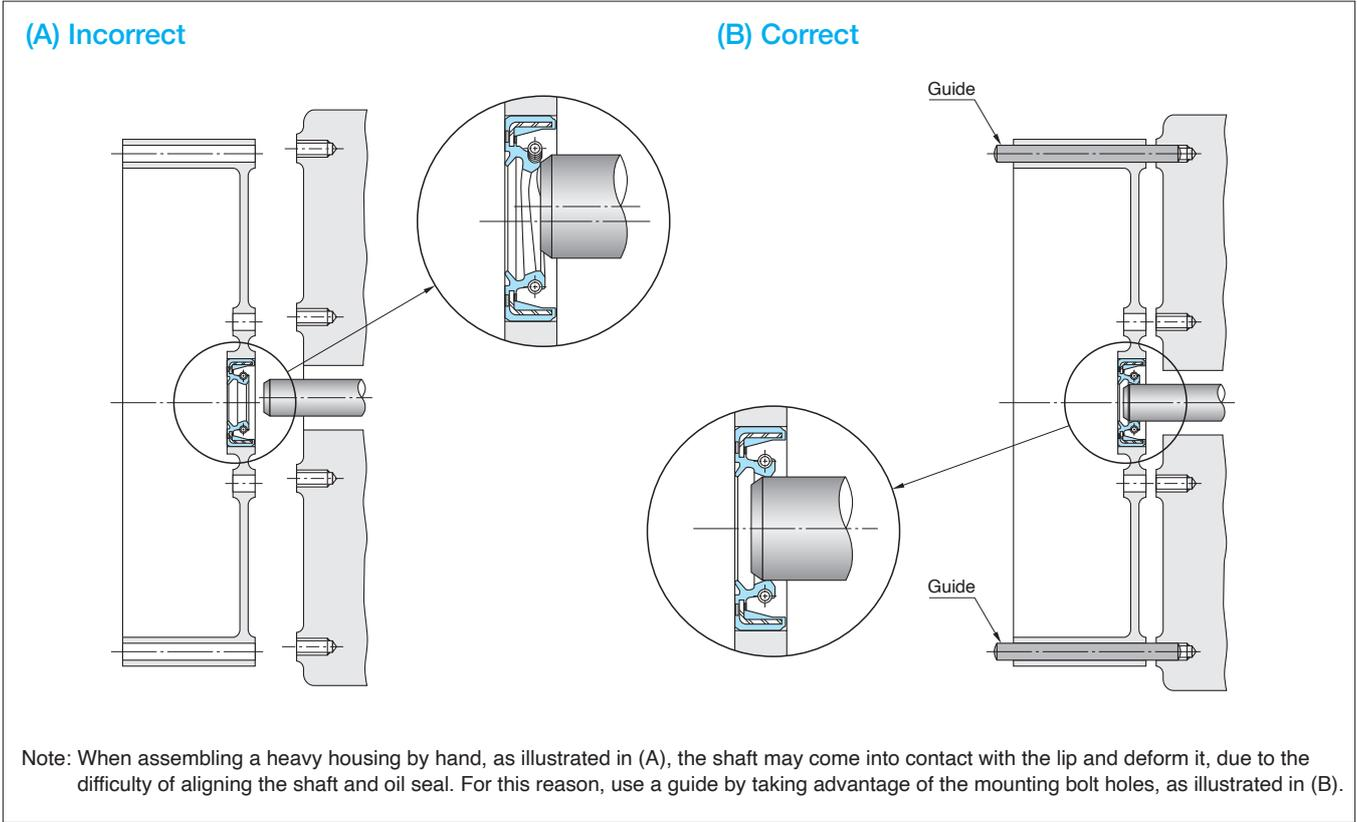

Fig. 7-11 Assembling a Heavy or Awkward Housing
- ❶ Apply a thin coating of lubricant or mineral oil based lithium grease (for example, Sealube SI made by NOK) to the shaft surface and the chamfer area. The seal should be smoothly inserted onto the shaft. Take care not to cause lip turn-under during this operation.
- ❷ Align the center of the seal with the shaft centerline, and carefully insert the shaft into the oil seal.
- ❸ When installing a pre-assembled housing and seal onto a shaft, or inserting a long shaft into a pre-assembled seal/housing, the seal lip can be damaged due to shaft contact during this awkward operation. See sketch (A) in Fig. 7-11 and 7-12. Avoid this damage by installing the seal only after the shaft and housing are assembled. If this is impossible, use an installation guide for the housing or shaft, as illustrated by (B) in Fig. 7-11 and 7-12.